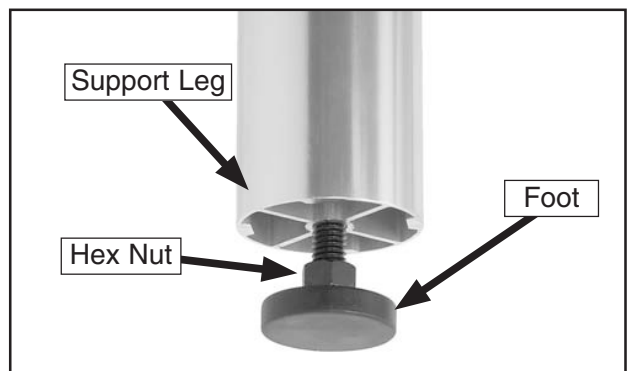

Figure 33. Foot installed on support leg.
6. Thread a $\frac{3}{8}$ "-16 hex nut onto each foot, then thread the feet into the bottom of the support legs, as shown in **Figure 33**.